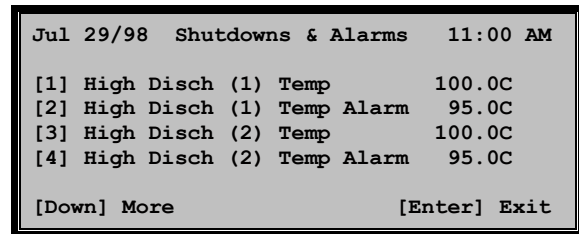

Figure 2–26
- (b) The SHUTDOWNS AND ALARMS screen (Figure 2–26) will be displayed.